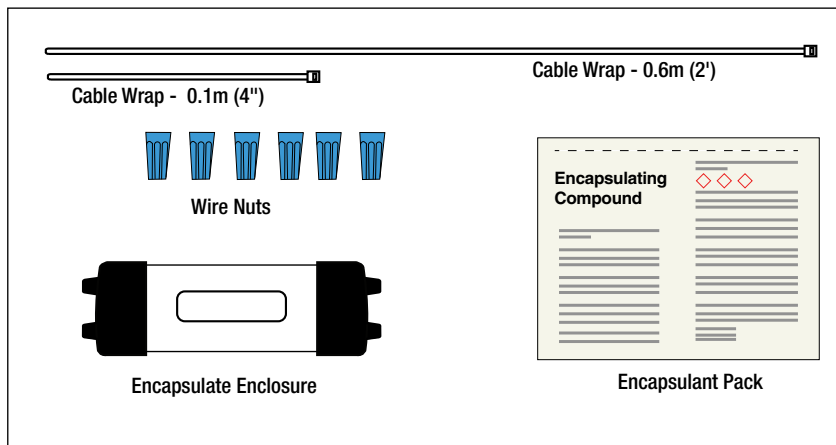

Figure 4. Cable Seal Kit
8. Connect the probe leader cable to the field wiring using the encapsulated splice kit shown in Figure 4.